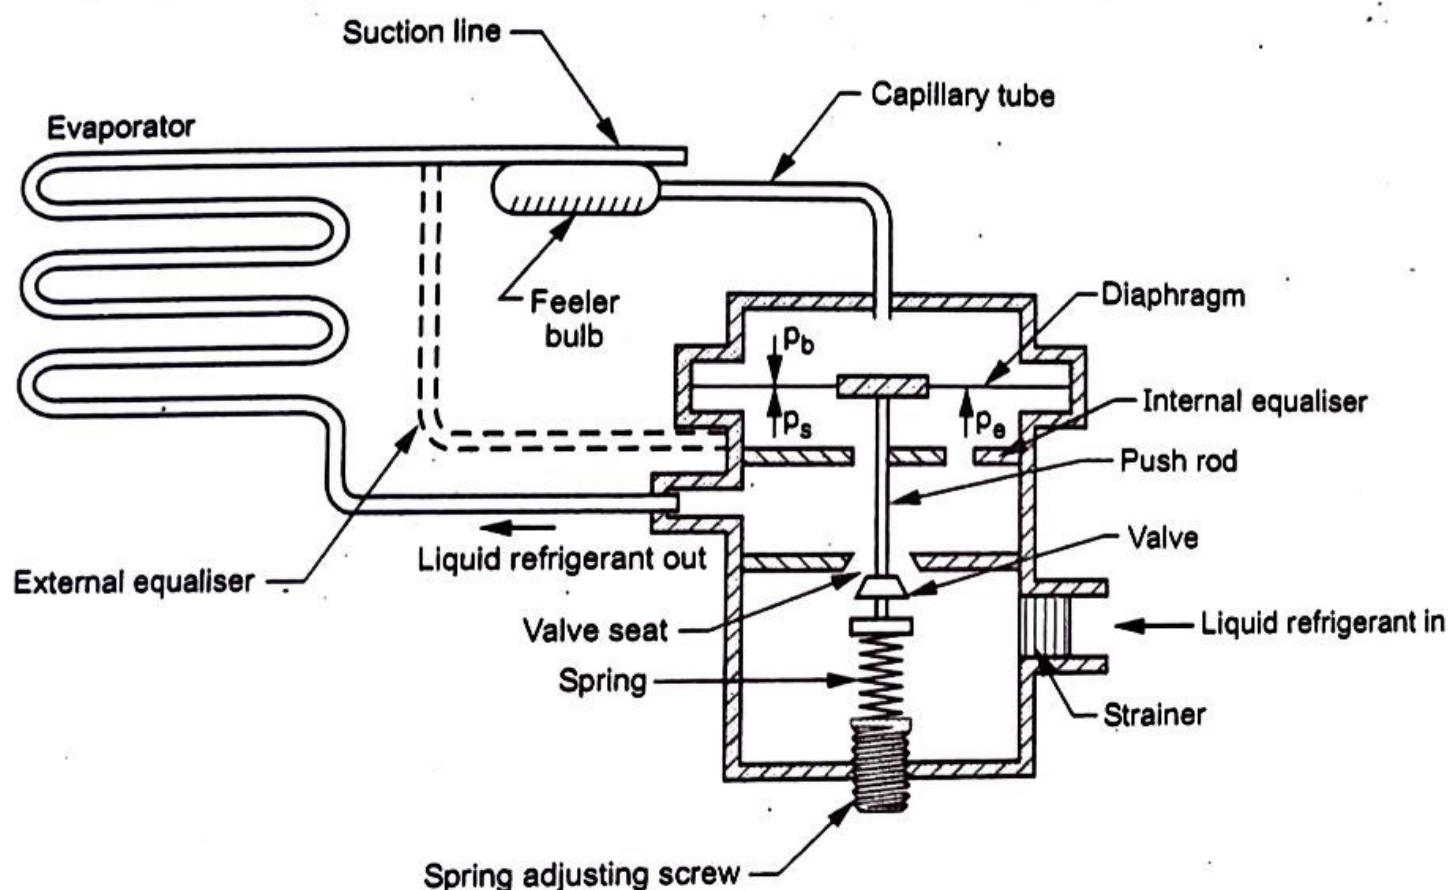

Fig. Q.4.2 Thermostatic expansion valve
- It consists of a needle valve and seat a metallic diaphragm (bellows), a spring, an adjusting screw and a strainer. Refer Fig. Q.4.2.